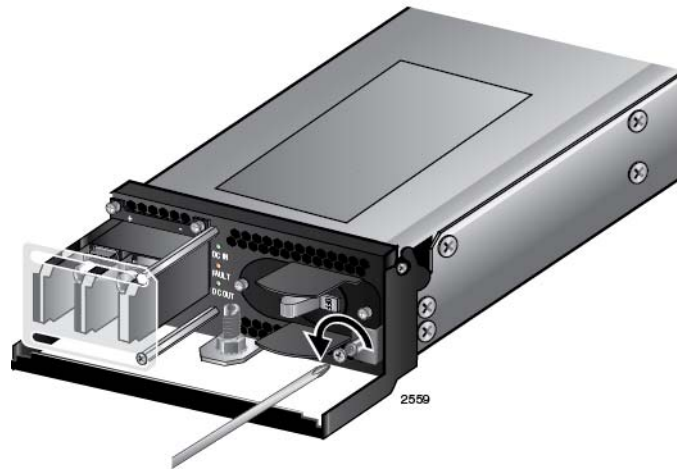

Figure 65. Loosening the Handle locking Screw on the AT-SBxPWRPOE1 DC Power Supply
4. With a #2 Phillips-head screwdriver, loosen the handle locking screw on the power supply, as shown in Figure 65 on page 110.